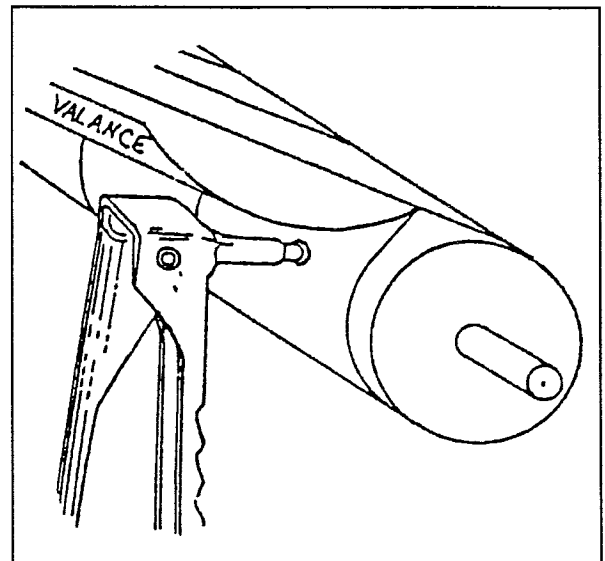

Figure 9
6. Using a blind or "PoP" rivet gun (**Fig. 9**) secure the fabric to the roller with a special 1/8" dia. wide flange aluminum blind rivet. Move down the length of the awning, drilling through the fabric and the steel tube at every seam and the middle of each panel making sure that a rivet is installed at each end seams as well.